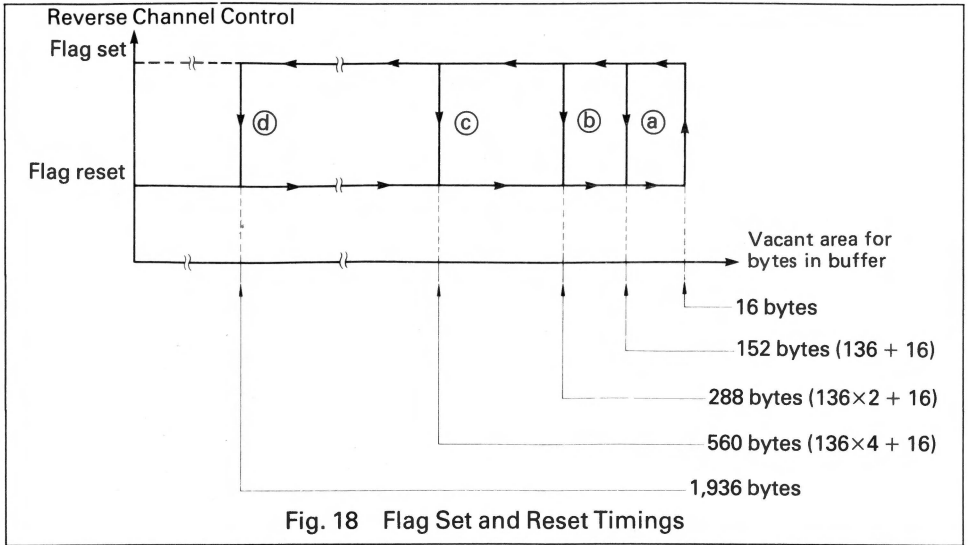

Fig. 18 Flag Set and Reset Timings
Flag set and reset timings (Reverse Channel control sequence) are shown in Fig. 18.
- 1) As shown in Fig. 18 above, the flag is set to block further data entry to the Interface when the vacant area for bytes (characters) in the buffer becomes 16 bytes. Data entry is possible until the vacant area for bytes in the buffer becomes zero.